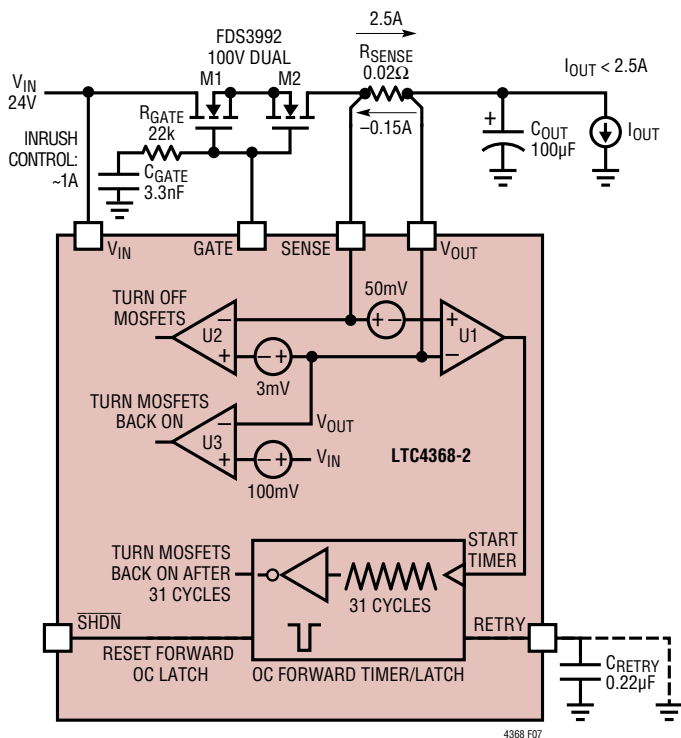
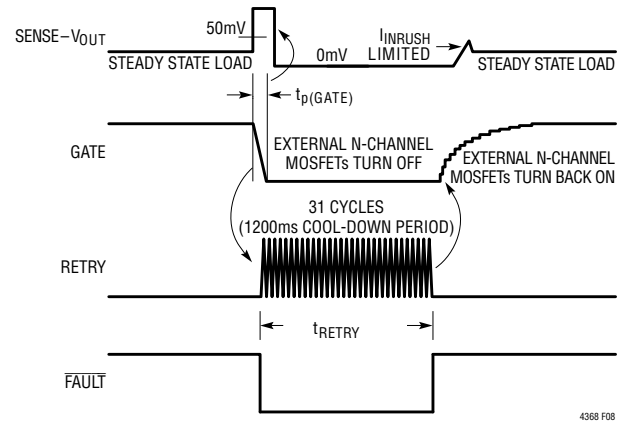

Figure 7. Overcurrent Comparators Monitor 2.5A/–0.15A Current Faults
Figure 8. Forward Overcurrent Fault with  $0.22\mu F$  RETRY Capacitor
The 3.3nF  $C_{GATE}$  capacitor in the application circuit of Figure 7 limits the inrush current to just over 1A.  $R_{GATE}$  prevents  $C_{GATE}$  from slowing down the reverse polarity protection circuits. It also stabilizes the fast pull-down circuits and prevents chatter during fault conditions. Set  $R_{GATE}$  to 22k for most applications.
Forward overcurrent protection prevents large currents from flowing from  $V_{IN}$  to  $V_{OUT}$ . This threshold current is determined by the external sense resistor ( $R_{SENSE}$ ) and an internal comparator (Figure 7, U1) with a 50mV threshold:
For the example of Figure 7, if 2.5A flows to the output across the 20m $\Omega$  sense resistor, the external MOSFETs (M1, M2) are immediately (8 $\mu$ s) turned off. This disconnects the load from the input supply.
For the example of Figure 7, the 3.3nF GATE capacitor and the 100 $\mu$ F output capacitor limit the inrush current ( $I_{INRUSH}$ ) to approximately 1A. This means that the output current ( $I_{OUT}$ ) must be less than 1.5A during turn on in order to avoid a forward overcurrent fault during turn on. Once  $V_{OUT}$  has ramped to its final value, the output current is limited to 2.5A.
1. Automatically restart by placing an external capacitor on the RETRY pin. An internal cool-down timer will charge/discharge this capacitor 31 times with a 5.5ms/nF total delay. At the end of this delay, the external MOSFETs are turned back on, thus reconnecting the load to the input supply. The 0.22 $\mu$ F capacitor ( $C_{RETRY}$ ) in the application of Figure 7 yields a 1200ms cool-down timer delay. Note that the adjustable cool-down period provides the user with a means of keeping the external MOSFETs within the rated SOA (safe operating area). See Figure 8 timing diagram.
Reverse overcurrent protection prevents large currents from flowing from  $V_{OUT}$  to  $V_{IN}$ . There are two options for reverse overcurrent protection thresholds. The LTC4368-1 ( $-50mV$ ) bidirectional circuit breaker allows load current to flow in either direction: from  $V_{IN}$  to  $V_{OUT}$  or from  $V_{OUT}$  to  $V_{IN}$ . The LTC4368-2 provides diode-like behavior by making the reverse overcurrent threshold ( $-3mV$ ) significantly smaller than the forward overcurrent threshold ( $+50mV$ ). The reverse overcurrent fault threshold is determined by the external sense resistor ( $R_{SENSE}$ ) and an internal comparator (Figure 7, U2). For the LTC4368-2 application of Figure 7:
To turn the MOSFETs back on, an internal comparator (Figure 7, U3) detects when  $V_{OUT}$  drops  $100mV$  below  $V_{IN}$ :